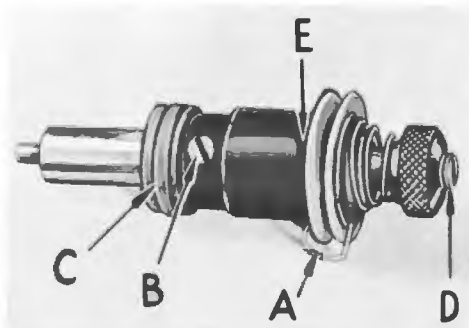
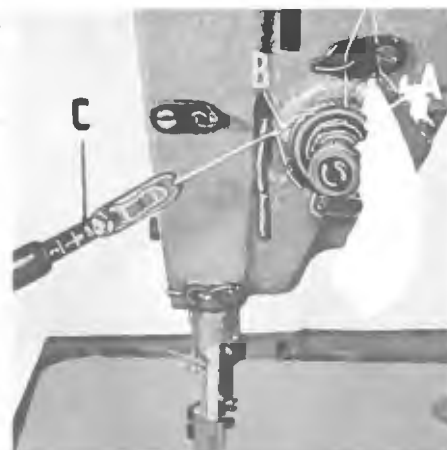

Fig. 17
Fig. 18A
Test check spring tension (A, Fig. 17). There should be enough tension to assure a good returning snap when spring is depressed and released. Should it require adjusting, loosen set screw in the head located under arm and to the right of tension assembly, and remove tension assembly. Partially loosen tension post set screw (B) in tension post socket (C). Turn the tension post (D) counterclockwise until the check spring moves away from the upper stop (E) and has no tension on it. Turn the tension post (D) in a clockwise direction until the spring again touches the upper stop (E). Then, proceed further in the same direction until the desired tension is obtained. When correctly set, the tension post set screw (B) should be drawn up snugly, yet not forcefully. Further adjustment of the check spring tension can be made by inserting a screwdriver into the slotted end of the tension post (D) and turning in the required direction.
Check the adjustment of tension assembly (A, Fig. 18A).
Check spring tension. There should be enough tension to insure a good returning snap when spring (B, Fig. 18A) is depressed and released. The check spring tension is adjusted from about 1 to $1\frac{1}{4}$ ounces when measured with a postal scale (C, Fig. 18A). This is measured when the check spring is $1/32$ to $1/16$ inch from its stop. The tension post set screw should be drawn up snugly but not forcefully tightened (B, Fig. 17). The tension release pin should move freely in the tension post (D, Fig. 17). The check spring eyelet (A, Fig. 18), located just below the tension discs, should be set for correct height as follows: